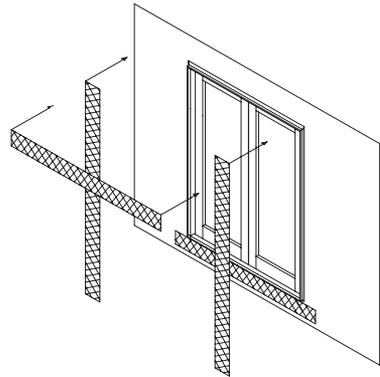

Figure 14
18. Apply a layer of flashing over the side jamb nailing flange (see figure 14). The length of the flashing should equal the height of the RO + (2x width of the flashing material) - 1". Install the flashing so that the edge contacts the inside corner of the nailing flange. The top of the flashing should extend only 8-1/2" above the top edge of the window frame. Make sure that the side flashing overlaps and covers the ends of the sill flashing. Repeat for opposite side.